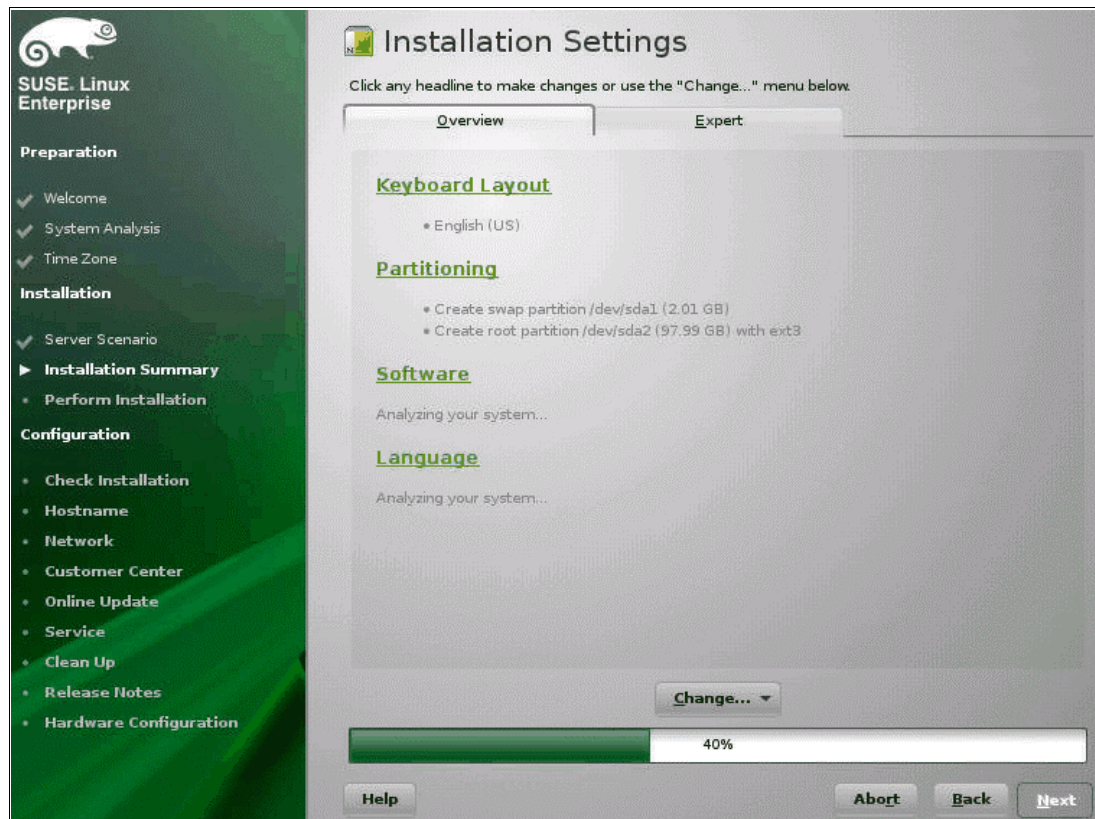

Figure 5-100 Installation Settings
7. At the *Installation Settings* windows, you can configure multiple paths during the installation process. To proceed using multiple paths, choose the **Expert** tab, as shown in Figure 5-100.